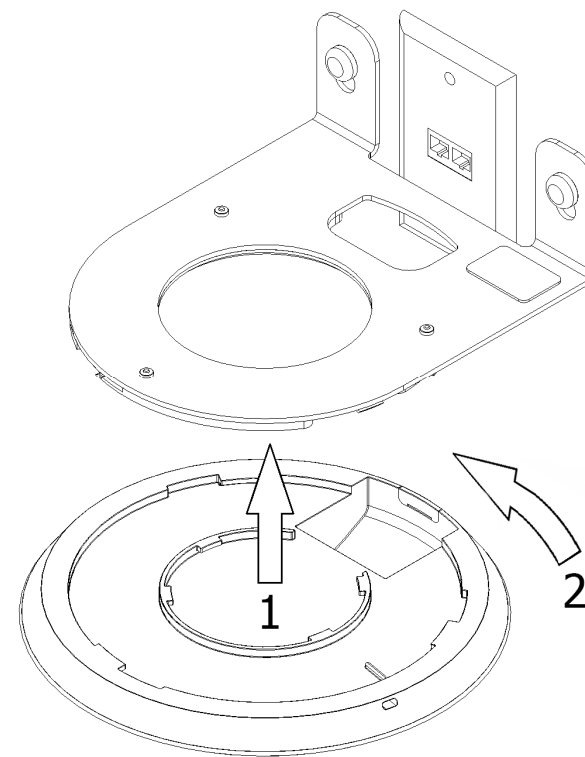

Figure 3
Step 5 - Once the 1006-UBI has been attached to the wall, attach the Ubiquiti access point by 1) lifting it onto the bottom of the previously attached Ubiquiti mounting plate and 2) rotating to secure the access point to the mounting plate (Ref. figure 3).